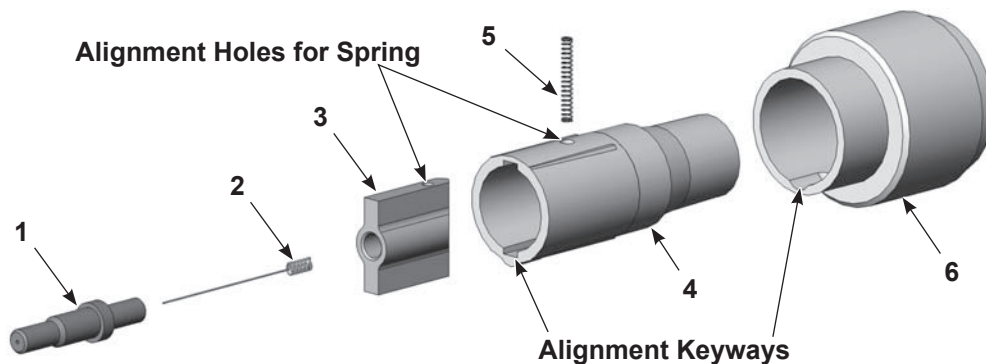

Figure 7-6 Electrode Support Sleeve Replacement
**SD Electrode Support Details:** (See Figure 7-6)
- The electrode support consists of items (3, 4, 5, and 6)
- The sleeve (4) and spring (5) are sold as a kit.
- The electrode support (6) contains a resistor. If the resistor fails, the entire assembly must be replaced.
- The electrode (2) and electrode holder (1) are sold separately. Conical and flat/corner spray nozzles use different electrode holders.